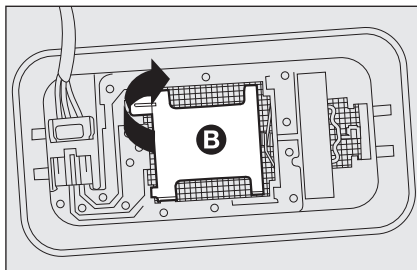

fig. 26
- ☐ open the cover **B**-fig. 26 as shown;